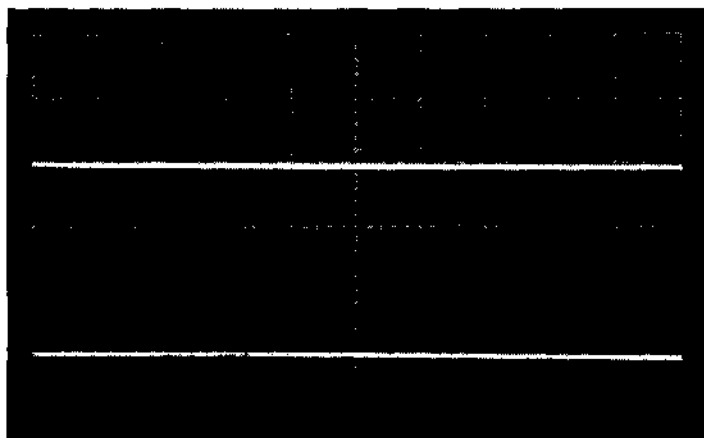

Figure 3-1 Ground Reference
2	Adjust the oscilloscope as follows: <ol style="list-style-type: none">Trigger: Channel 1 onlyMode: Channel 1Channel 1: 5V/DivisionSet ground reference sweep on 1 cm above center horizontal graticule (see Figure 3-1).Sweep: 0.5 ms
- g. The oscilloscope should appear as shown in Figure 3-1.
2	The oscilloscope is set as follows: <ul style="list-style-type: none"> a. Trigger: Channel 1 only b. Mode: Channel 2 only c. Channel 1: 2V/cm d. Channel 2: 50 mV/cm e. Channel 2 GND reference: 2 cm below center graticule (see Figure 3-1) f. Current probe terminator to 2 mA/mV g. Sweep: 2 μs h. Slope: Positive; Source: Internal i. Attach the current probe to Channel 2.